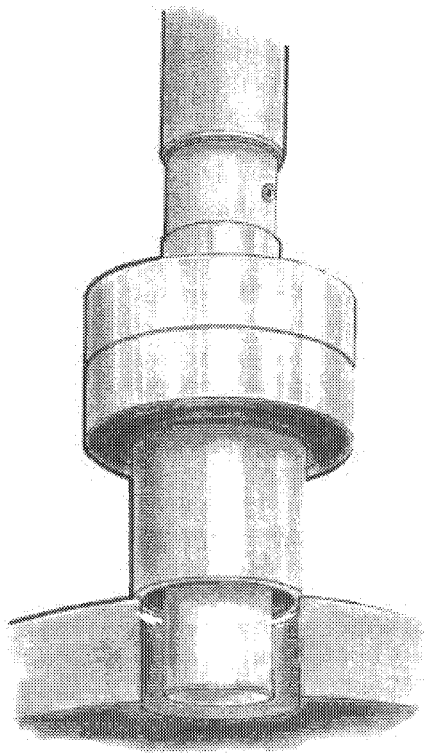

Fig. 3 Stub Shaft Assembly in Bearing Press.
- a. Install ball bearing (112) on stub shaft (380) using a driving sleeve or bearing press. (Figure 3)